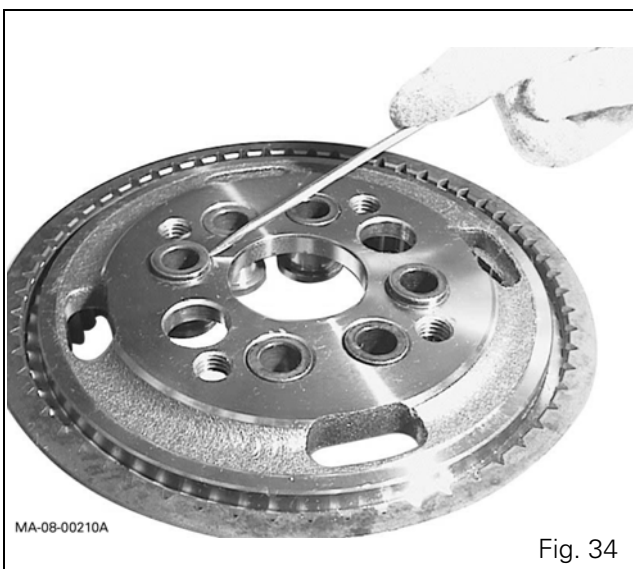

Fig. 34
33. Place the ring gear carrier on a workbench and ensure that the rings are flush with the ring gear carrier surface using special tool ref. CA715027 (see § K). The two rings must be positioned slightly higher than the ring gear carrier surface to act as guide pins (Fig. 34).